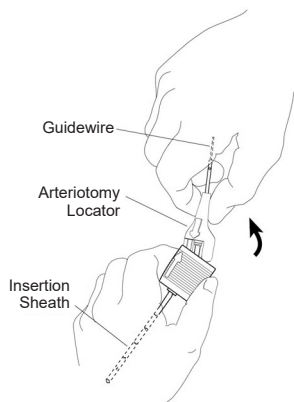

Fig. 4
- a) remove the arteriotomy locator and guidewire from the insertion sheath by flexing the arteriotomy locator upward at the sheath hub (Figure 4).